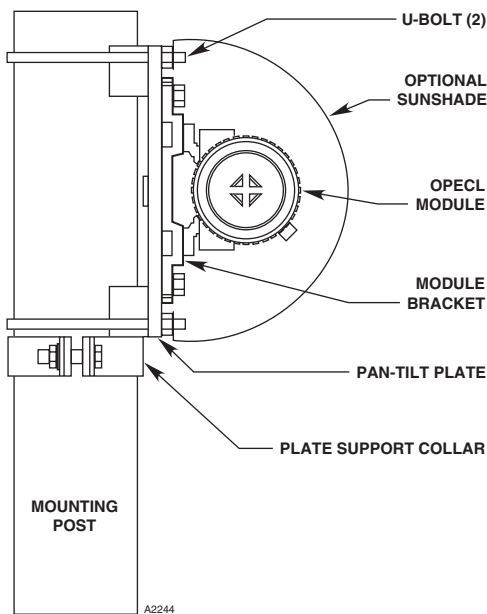

Figure 3—OPECL Gas Detector Mounted to Vertical Post
- A vertical post with a nominal outside diameter of 4.5" (11.43 cm). Acceptable outside diameter range is 4.0 to 5.0 inches. Ensure that each post is capable of supporting a minimum of 50 lbs (23 kg). See Figure 3.